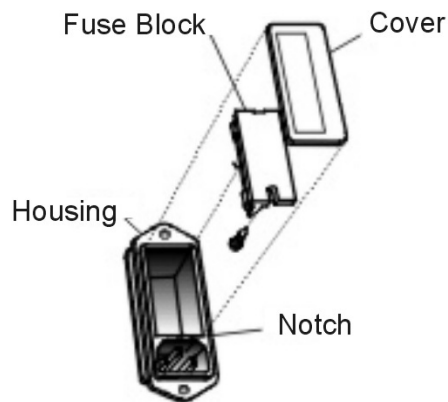

Figure 5-2: Removing Fuse Block from Housing
1. Place small screwdriver in notch, and pry cover off, as shown in Figure 5-2.
4. Reassemble housing as shown in Figure 5-2.